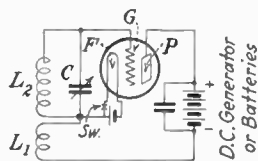

FIG. 3.—Fundamental vacuum-tube oscillator.
*Ans.* Figure 3 illustrates a fundamental vacuum-tube oscillator. The theoretical action of a vacuum-tube oscillator may be clearly understood by referring freely to the figure and the following explanation: The moment the filament switch *Sw* is closed and the direct-current generator is running, the filament emits electrons which bombard the plate. A plate current will then flow from *P* to *F* through coil *L*1 back to the negative terminal of the generator, completing the circuit and resulting in a steady flow of current in the plate circuit.
sponding change in the plate current which will produce continuous oscillations the same as the fundamental oscillator in Fig. 3.